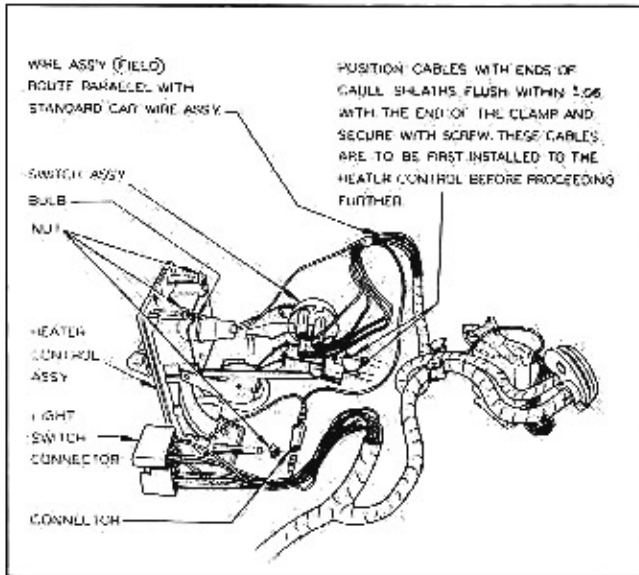

Fig. 3-13 Control Cable Connections at Control Panel
2. Check to see that the temperature control valve cable housing extends no more than  $\frac{1}{16}$ " beyond the cable housing clamp on the control panel assembly (Fig. 3-13).